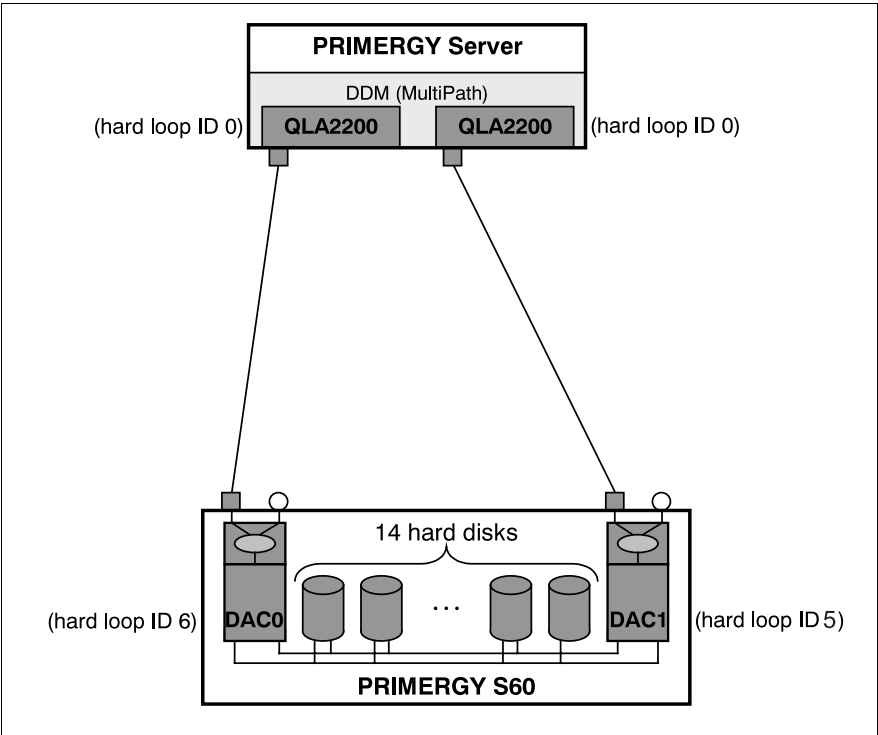

Figure 17: Path Redundancy with Dual FFX-RAID Controller
- Loop IDs (see figure 17 on page 23)